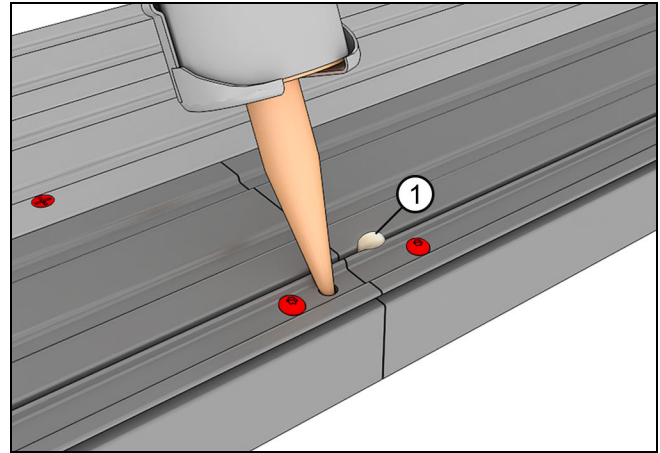

Figure 35
7. Inject sealant into the hole nearest the splice until squeeze out appears in the nearby relief hole in the nail fin kerf. See Figure 35.